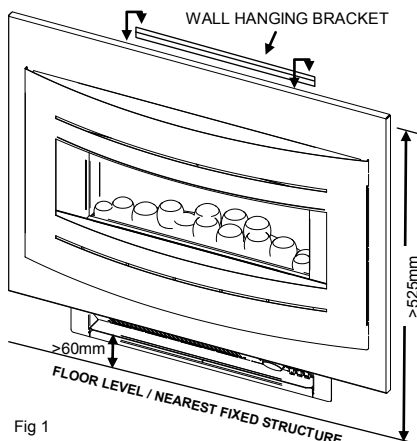

Fig 1
1. Position the wall fixing at the desired height: note that the bracket fixing centres must be at least 525 mm above the floor **Fig 1**